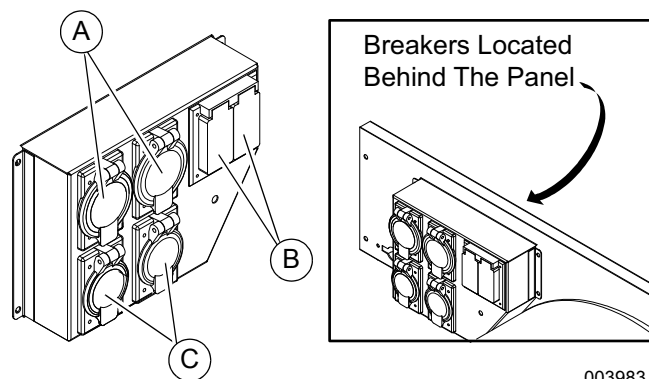

Figure 3-9. Auxiliary Outlets
See Figure 3-9. The receptacle panel is equipped with six receptacles for running accessories or tools from the generator. Power is supplied to the receptacles any time the engine is running and the main circuit breaker is switched to the ON (I) position. The standard receptacle panel is equipped with two of each of the following receptacles:
- (A) 240V/30A Twist-lock
- (B) 120V/20A CGFI
- (C) 240V/50A Twist-lock